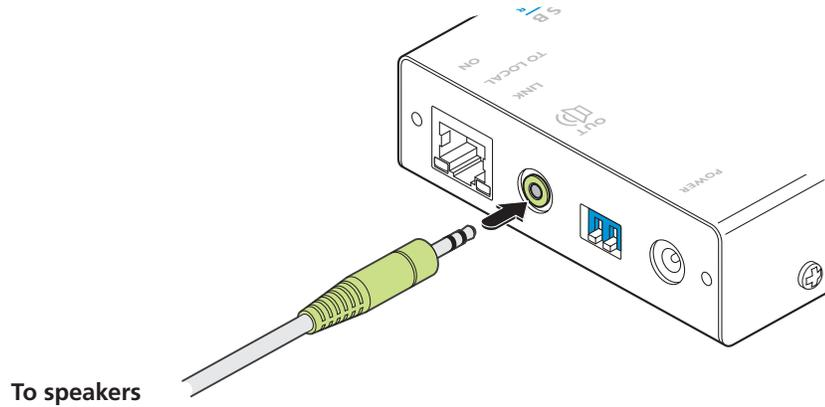

Figure 3-9. Optionally attaching stereo speakers
- 4 Optionally attach the lead from your stereo speakers to the audio output socket on the remote module as shown in Figure 3-9: